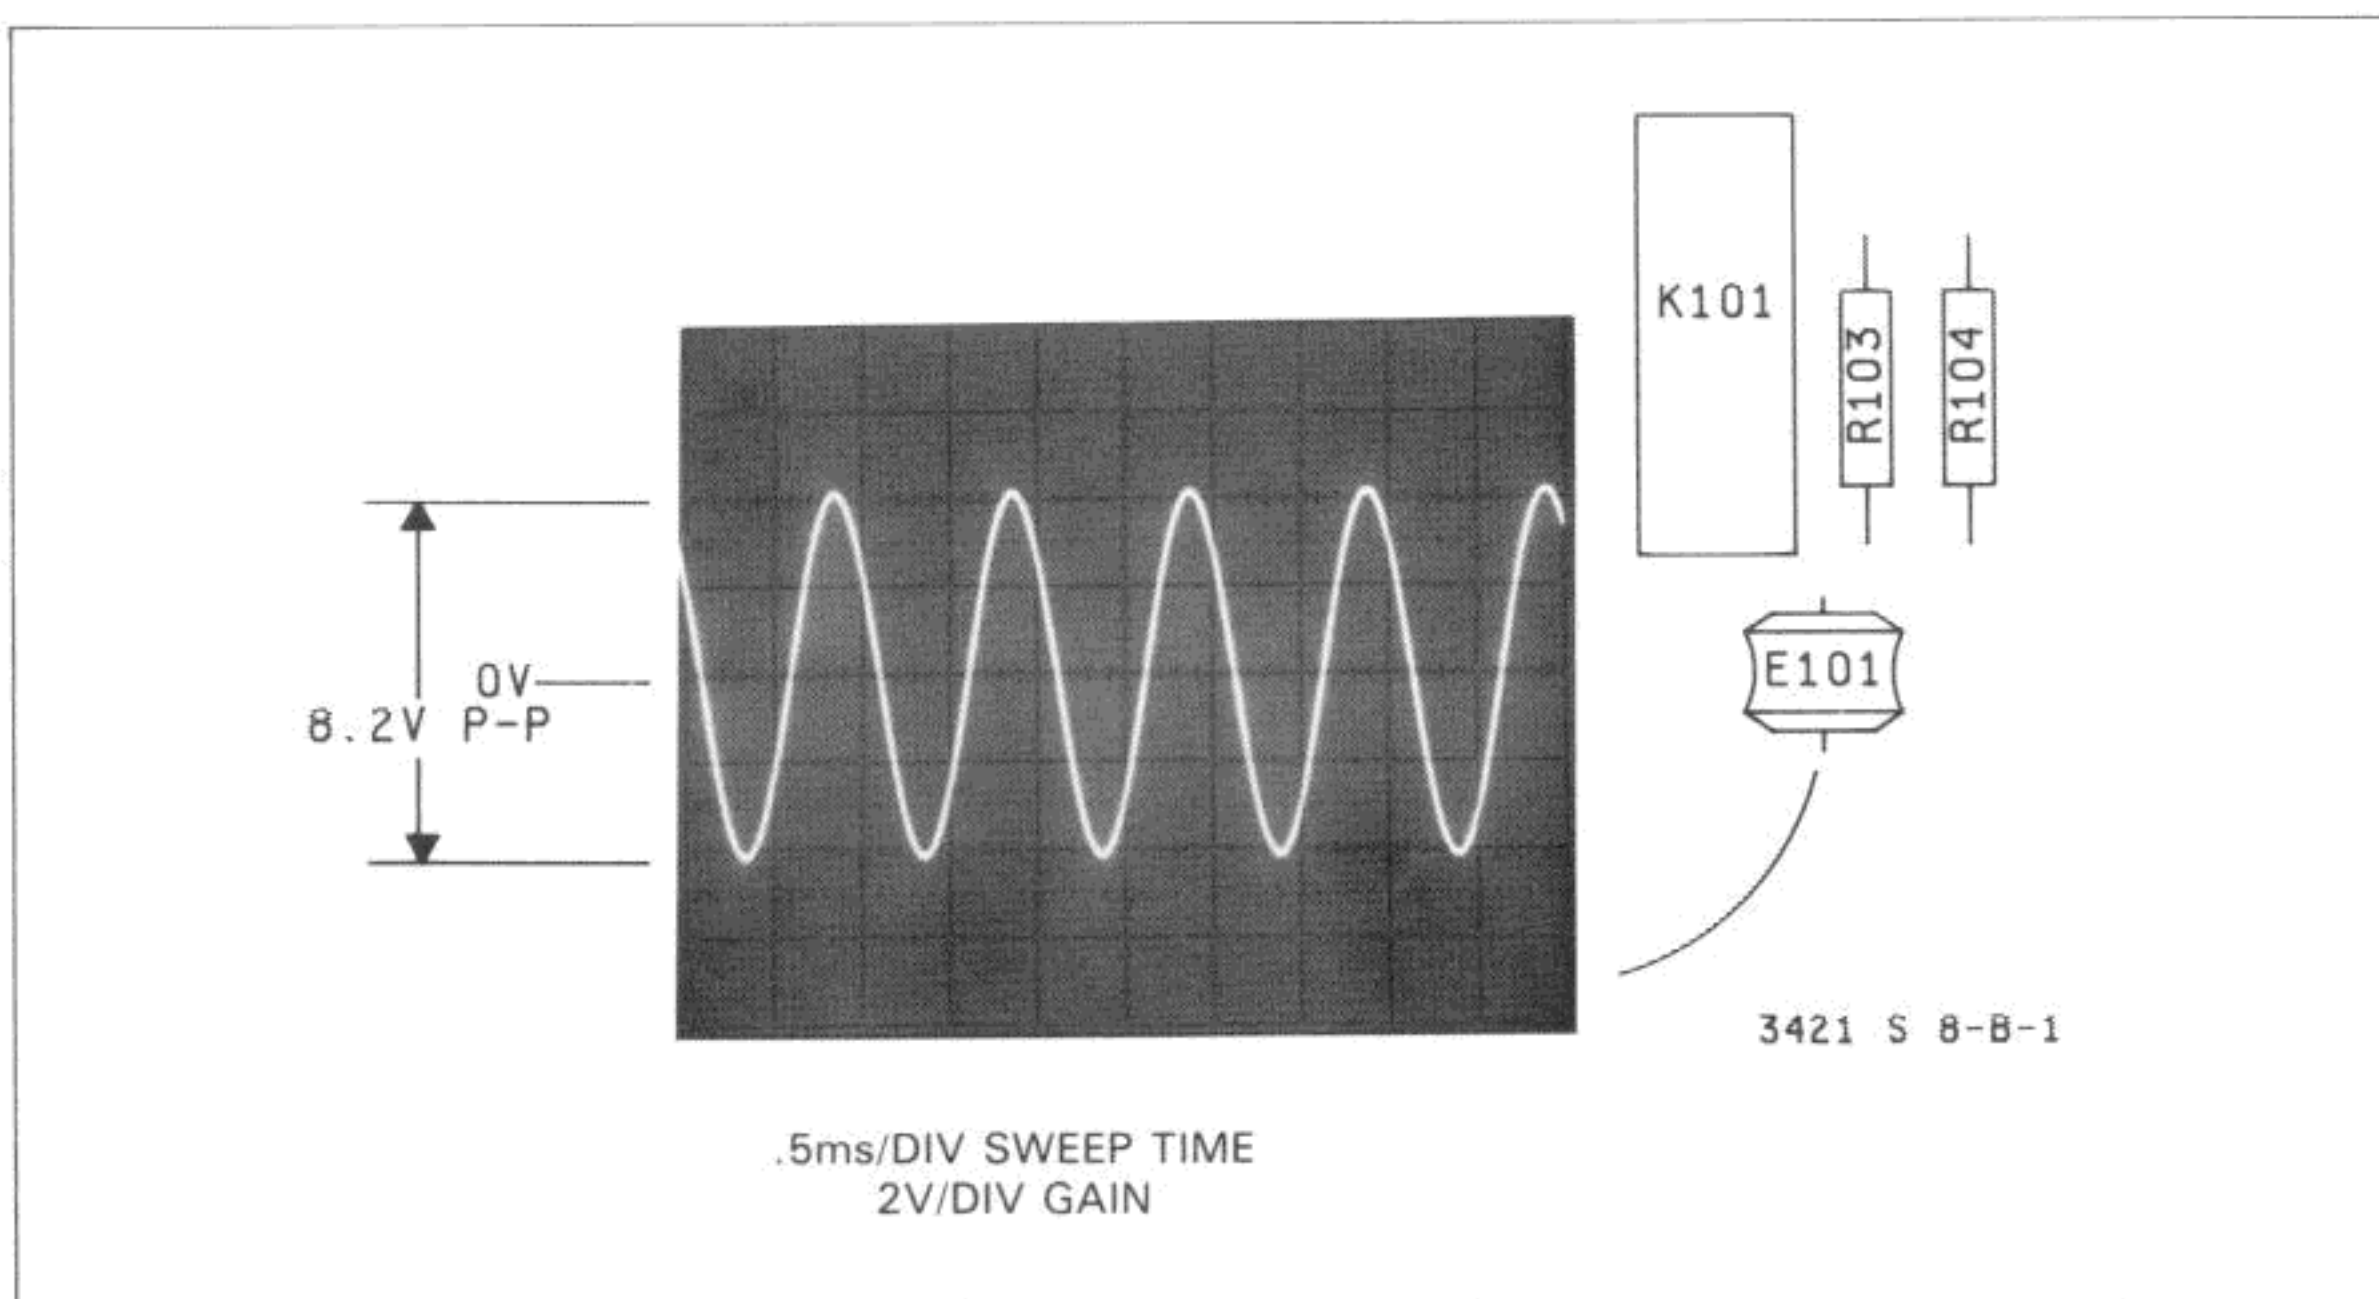

Figure 1-8-B-1. AC Input Waveform at E101
- c. Set the oscilloscope to 2V/Div with a .5 ms sweep time and check for the waveform at E101 as shown in Figure 1-8-B-1. This check ensures that the ac input is getting to the input of the ac relay (K103).